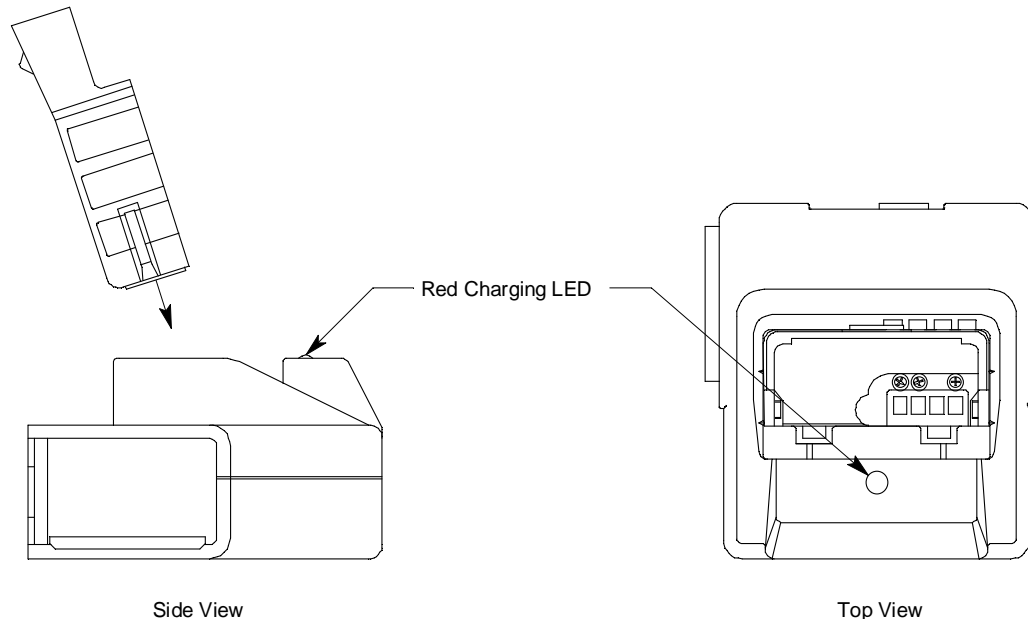

Figure 25: Putting the Battery Pack into the Charging Station
4. Insert the battery pack into the charging station as shown in Figure 25 below so that the metal contacts on the back of the battery pack come into contact with the metal contacts in the charging station. When proper contact has been made, the red LED on the charging station will turn on.